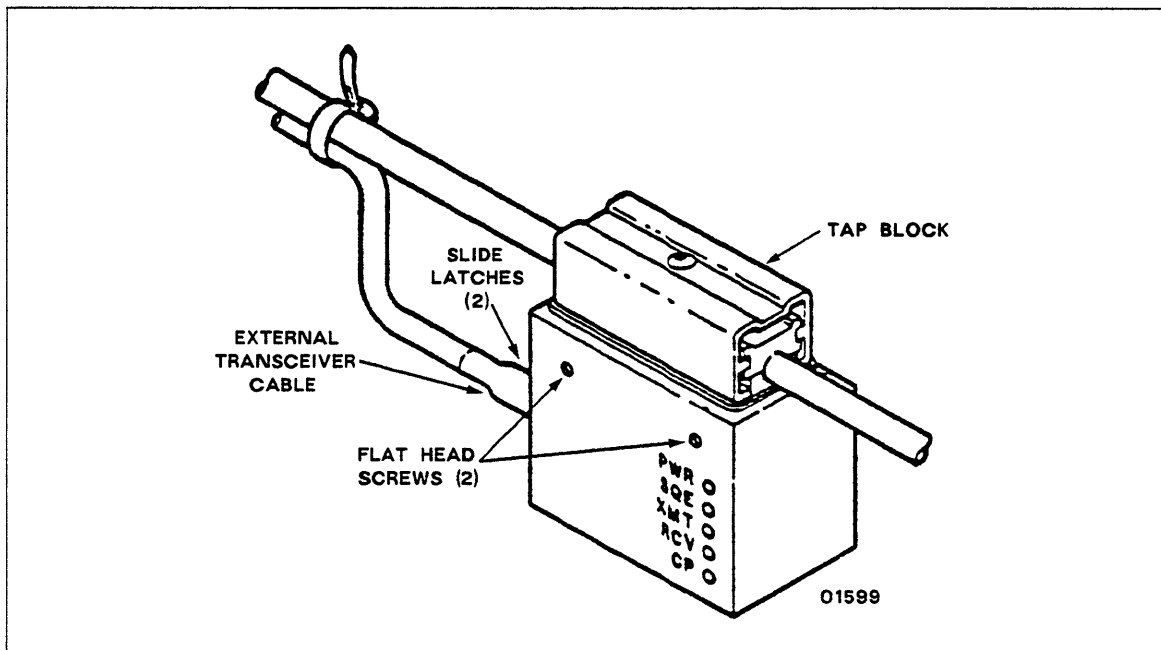

Figure 9-30. TN111B Transceiver
1. Cut tie-wrap and disconnect external transceiver cable (figure 9-30) from transceiver by rotating slide latches (one up and one down).
2. Unscrew (counterclockwise) two flat head screws from transceiver to release it from tap block (figure 9-30). The tap block remains in place.